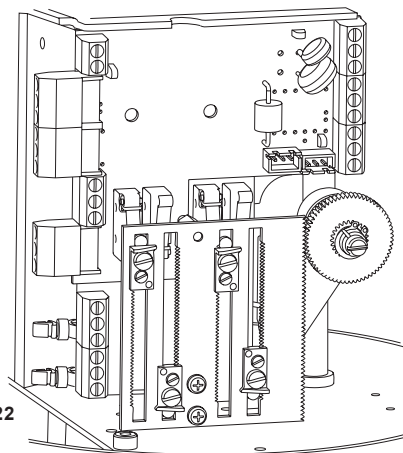

Fig. 22
- Remount the switching plate (Figure 22).